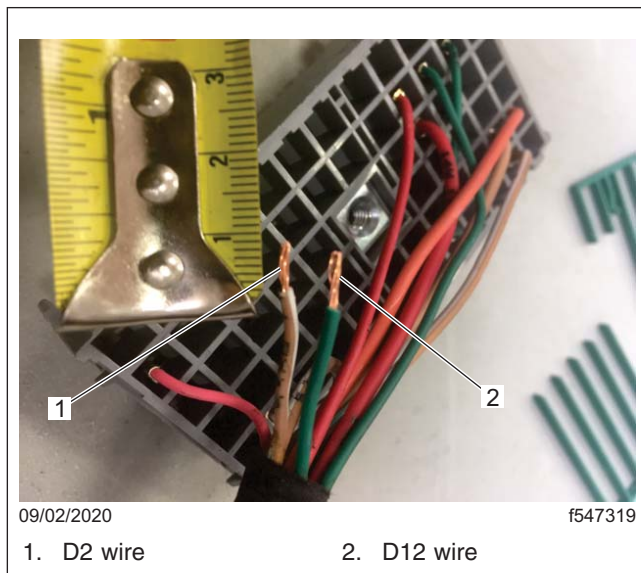

Fig. 6, Stripped D2 and D12 Wires of Equal Length
- 15.2 Cut the D12 terminal off, cutting the wire to be an even length with the wire removed from the D2 cavity. See Fig. 6.